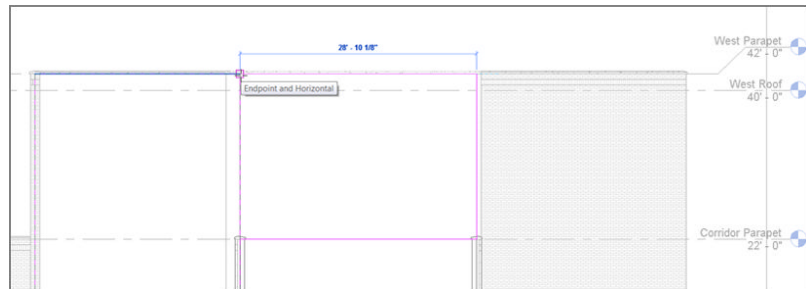

FIGURE 3.47: Drawing the line across the top
10. Continue drawing the line from right to left, across the top of the wall. Snap to the endpoint of the wall to the left, as shown in Figure 3.47.